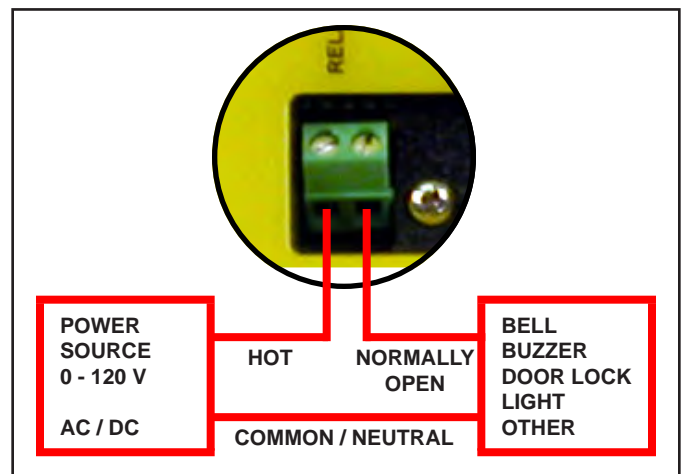

Figure 5. Relay installation
2. The Relay Terminal connections can be made on the back of the SmartLog (see Figure 5). They can be used to control doors, gates, etc. The relay terminal is limited to a maximum of 1A @ 30VDC or .5A @ 125VAC.